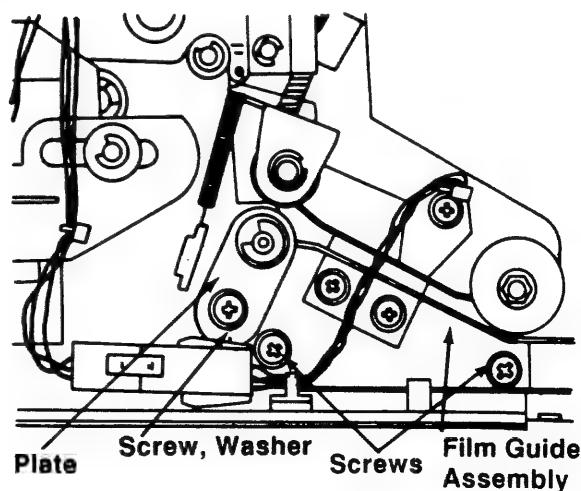

Figure 2-3.2B
2. Remove and discard two Screws and the Film Guide Assembly (Figure 2-3.2B).
8. Remove the Screw, Washer, and Plate (Figure 2-3.2B) discarding the Plate but not the hardware.